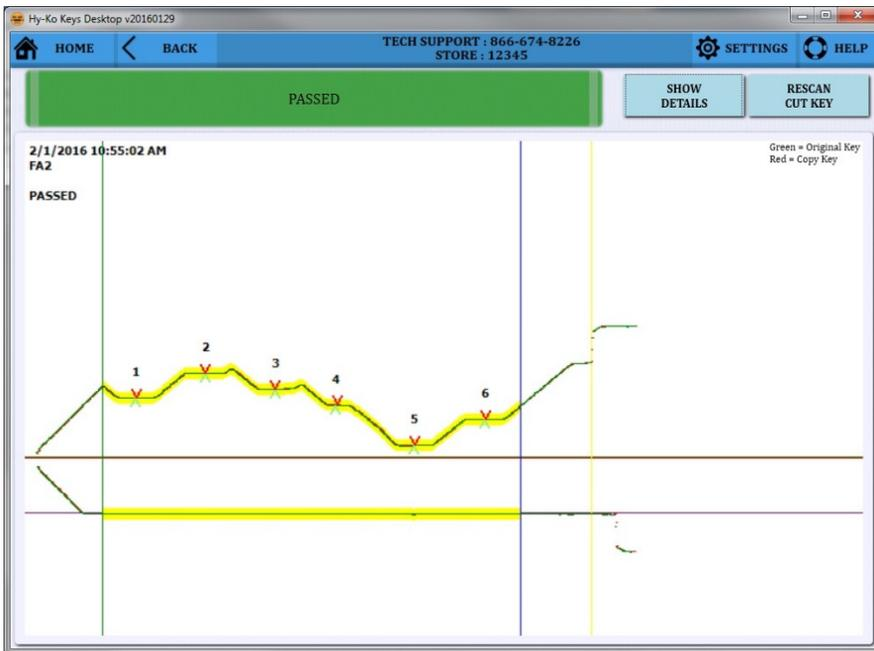

fig. 41 **'PASSED'**. At this point, you are finished and can give the customer their new key.
- When the Vision Box is finished scanning the key, you will be taken to the validation results screen (see fig. 41).